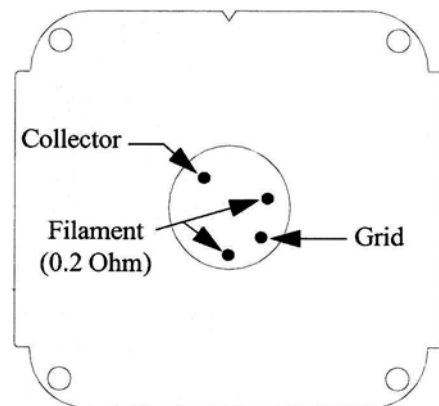

Figure 4-2 Mini-Ion Module Pin Identification
6. Using a digital multimeter, measure the resistance of the filament between filament pins as shown in Figure 4-2. The reading should be approximately 0.2 Ohm.
7. Measure the resistance of filament pins to any other pin or gauge case as shown in Figure 4-2. The reading should be infinity.
8. Measure the resistance of Grid pins to any other pin or gauge case as shown in Figure 4-2. The reading should be infinity.
9. Measure the resistance of Collector pin to any other pin or gauge case as shown in Figure 4-2. The reading should be infinity.